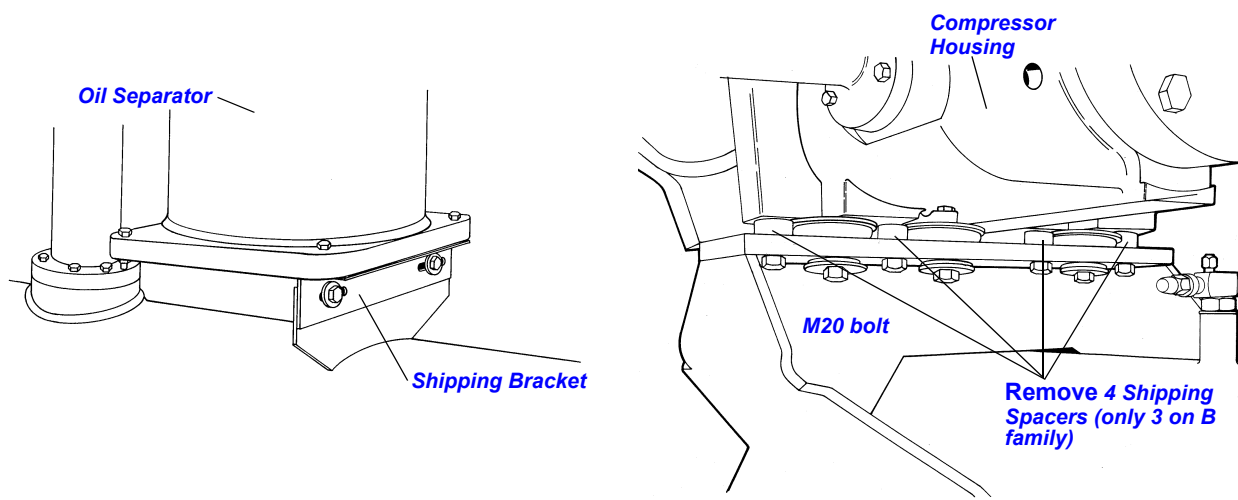

Figure 8 Oil Separator with Shipping Bracket and Compressor Shipping Spacer
8. The unit is shipped with four spacers (only three on B family) on the compressor mount that protect the compressor isolation pads during shipping and in handling. Remove these spacers (*Figure 8*) before the unit is operated.
9. Remove the shipping brackets from the bottom sides of the oil separator(s) (see *Figure 8*).